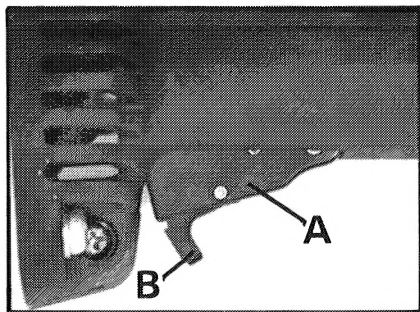

Fig. 1
2. Squeeze switch trigger (A) Fig. 1, to start motor. Release trigger to stop motor.
To lock the trigger switch ON, squeeze the trigger (A) while sliding finger forward to engage lock button (B) Fig. 1, and release trigger switch.